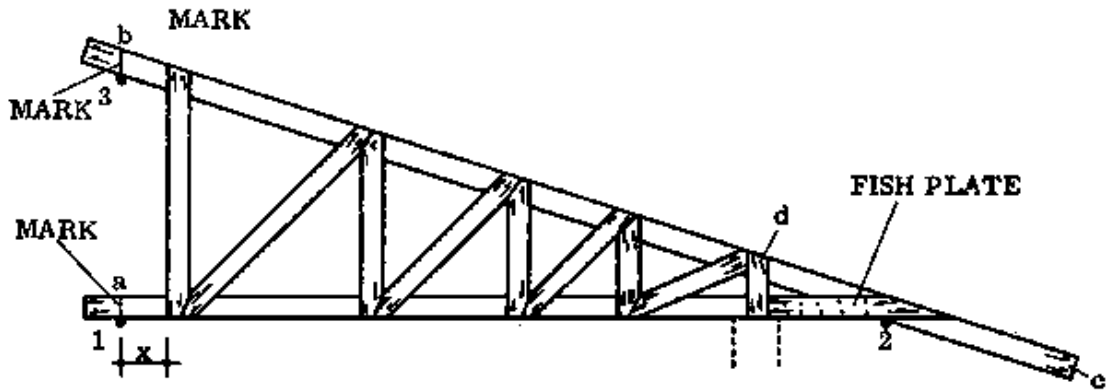

Fig. 3
f. Cut the rafter-to-tie beam joint. Mark the inside end of the tie beam (a) and the inside end of the rafter (b). Make sure that the rafter has a long projection on the eave end (Fig. 3). This projection is trimmed only just before the fascia board is fixed (c).
g. Nail the braces and the fish plates. The last vertical brace on the ridge end is set back (Fig. 3, x) so that there is space to fit the trusses together later. Nail a short vertical brace (Fig. 3, d) where the tie beam meets the supporting wall.